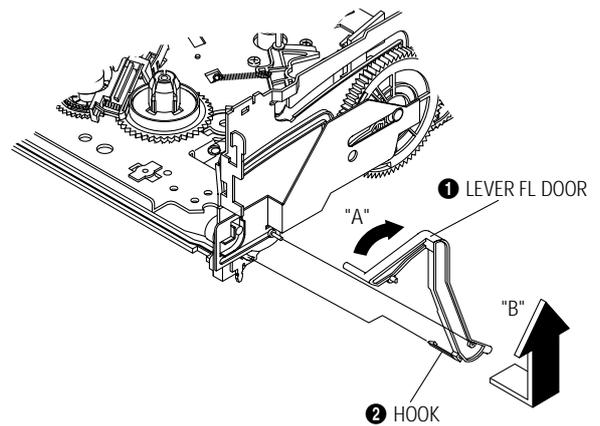

Fig. 4-9 Lever FL Door Removal
- 1) Remove the Lever FL Door. (Refer to Fig. 4-9)
- 2) Pull the Holder FL Cassette Ass'y ❶ to the eject position.
- 3) Pull the Holder FL Cassette Ass'y ❶ as grasping the Holder FL Cassette Ass'y ❶ and Lever FL Cassette-R ❷ in the same time to release hooking from Main Base until the Boss [A], [B] of Holder FL Cassette Ass'y ❶ is taken out from the Rail [C], [D].
- 4) Lift the Holder FL Cassette Ass'y ❶ in the direction of arrow "B" in this time, you have to grasp the Lever FL Cassette-R ❷ continuously until the Holder FL Cassette Ass'y ❶ is taken out completely.